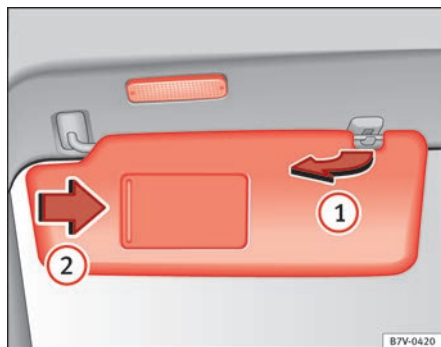

Fig. 64 Sun visor.
- The sun visor can be pulled out of its mounting and turned towards the door => fig. 64 ①.